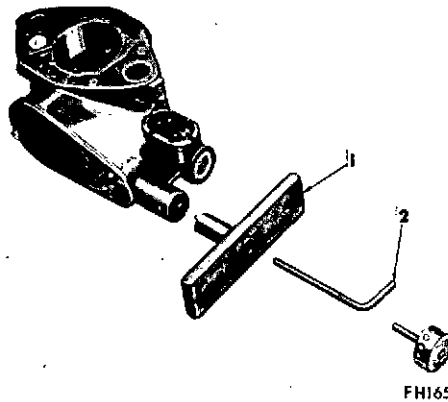

Figure 50 — King-Seeley Adjusting Wrenches
If the governor is too sensitive or has a tendency to surge, place the hollow wrench (1) in position on the calibrating nut (11), and insert the special adjusting wrench (2) through the hollow wrench into the adjusting screw and turn the screw clockwise one turn (Figure 50)
The stock numbers of the special wrenches (Figure 50) are as follows: